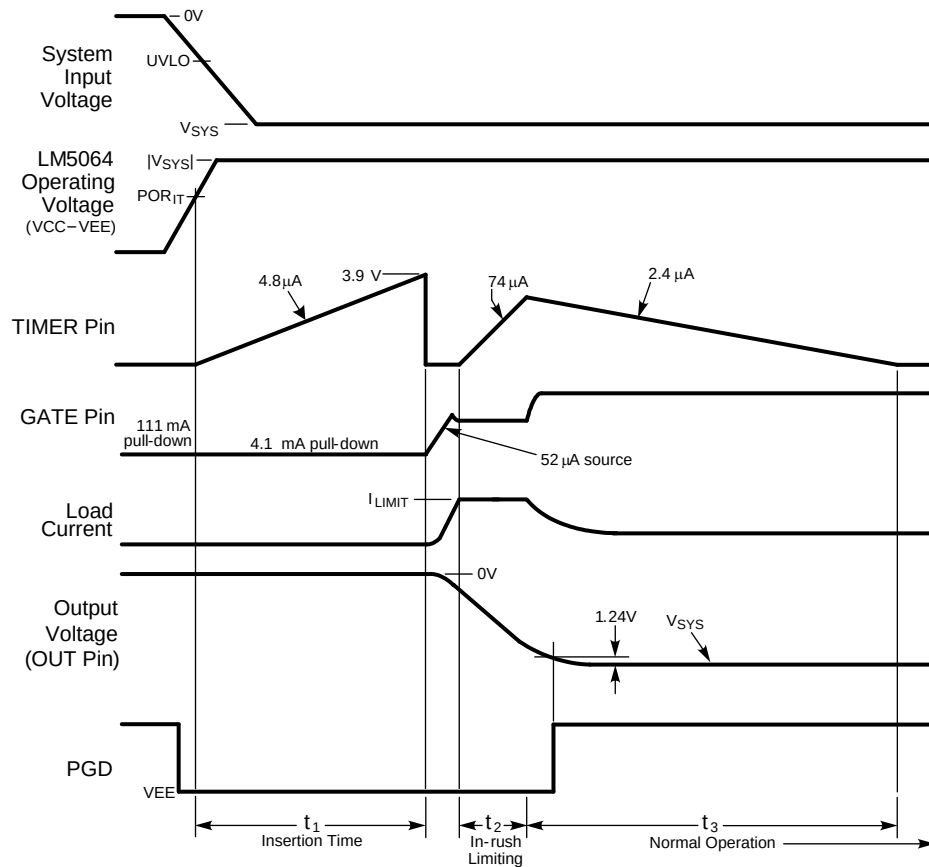

Figure 2. Power Up Sequence
Referring to Figure 2, as the system voltage (V_{SYS}) initially increases, the external N-channel MOSFET (Q_1) is held off by an internal 111 mA pull-down current at the GATE pin. The strong pull-down current at the GATE pin prevents an inadvertent turn on as the MOSFET’s gate-to-drain (Miller) capacitance is charged. Additionally, the `TIMER` pin is initially held at VEE. When the operating voltage of the LM5064 (VCC - VEE) reaches the `PORIT` threshold, the insertion time begins. During the insertion time, the capacitor at the `TIMER` pin (C_T) is charged by a 4.8 μA current source, and Q_1 is held off by a 4.1 mA pull-down current at the GATE pin regardless of the input voltage. The insertion time delay allows ringing and transients on V_{SYS} to settle before Q_1 is enabled. The insertion time ends when the `TIMER` pin voltage reaches 3.9V. C_T is then quickly discharged by an internal 1.5 mA pull-down current. The GATE pin then switches on Q_1 when the operating voltage exceeds the UVLO threshold. If the operating voltage is above the UVLO threshold at the end of the insertion time, (t_1 in Figure 2) the GATE pin sources 52 μA to charge the gate capacitance of Q_1 . The maximum voltage on GATE is limited by an internal 12.6V zener diode to VEE.
As the voltage at the OUT pin transitions to V_{SYS} , the LM5064 monitors the drain current and power dissipation of MOSFET Q_1 . In-rush current limiting and/or power limiting circuits actively control the current delivered to the load. During the in-rush limiting interval (t_2 in Figure 2), an internal 74 μA fault timer current source charges C_T . If Q_1 ’s power dissipation and the input current reduce below their respective limiting thresholds before the `TIMER` pin reaches 3.9V, the 74 μA current source is switched off, and C_T is discharged by the internal 2.4 μA current sink (t_3 in Figure 2). The in-rush limiting will no longer engage unless a current-limit condition occurs.
A current source provides the charge at the GATE pin to enhance the N-Channel MOSFET's gate (Q_1). During normal operating conditions (t_3 in Figure 2) the gate of Q_1 is held charged by an internal 52 µA current source. The GATE pin peak voltage is roughly 12.6V, which will force a V_{GS} across Q_1 of 12.6V under normal operation. When the system voltage is initially applied, the GATE pin is held low by a 111 mA pull-down current. This helps prevent an inadvertent turn on of Q_1 through its drain-gate capacitance as the applied system voltage increases.
During the insertion time (t_1 in Figure 2), the GATE pin is held low by a 4.1 mA pull-down current. This maintains Q_1 in the off-state until the end of t_1 , regardless of the voltage on V_{SYS} or UVLO/EN. Following the insertion time, during t_2 in Figure 2, the gate voltage of Q_1 is modulated to keep the current or power dissipation level from exceeding the programmed levels. While in the current or power limiting mode, the TIMER pin capacitor is charging. If the current and power limiting cease before the TIMER pin reaches 3.9V, the TIMER pin capacitor then discharges, and the circuit begins normal operation. If the in-rush limiting condition persists such that the TIMER pin reached 3.9V during t_2 , the GATE pin is then pulled low by the 4.1 mA pull-down current. The GATE pin is then held low until either a power up sequence is initiated (RETRY pin to VDD), an automatic retry is attempted (RETRY pin to VEE or floating), or a PMBus ON/OFF command is initiated. See the Fault Timer & Restart section. If the operating voltage falls below the UVLO threshold, or rises above the OVLO threshold, the GATE pin is pulled low by the 4.1 mA pull-down current to switch off Q_1 .
When the current limit or power limit threshold is reached during turn-on, or as a result of a fault condition, the gate-to-source voltage of Q_1 is modulated to regulate the load current and power dissipation in Q_1 . When either limiting function is active, a 74 μ A fault timer current source charges the external capacitor (C_T) at the TIMER pin as shown in Figure 2 (Fault Timeout Period). If the fault condition subsides during the Fault Timeout Period before the TIMER pin reaches 3.9V, the LM5064 returns to the normal operating mode and C_T is discharged by the 1.5 mA current sink. If the TIMER pin reaches 3.9V during the Fault Timeout Period, Q_1 is switched off by a 4.1 mA pull-down current at the GATE pin. The subsequent restart procedure then depends on the selected retry configuration.
A) Insertion Delay -Upon applying the system voltage (V_{SYS}) to the circuit, the external MOSFET (Q₁) is held off during the insertion time (t₁ in Figure 2) to allow ringing and transients at V_{SYS} to settle. Since each backplane's response to a circuit card plug-in is unique, the worst case settling time must be determined for each application. The insertion time starts when V_{SYS} reaches the POR threshold, at which time the internal 4.8 μA current source charges C_T from 0V to 3.9V. The required capacitor value is calculated from: